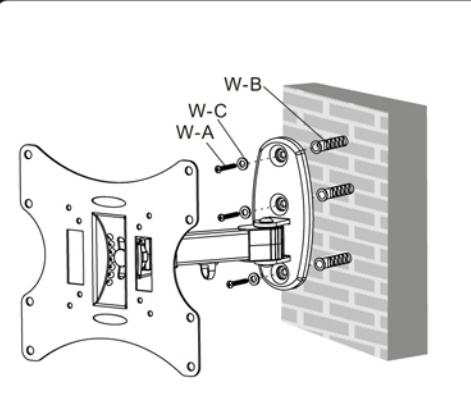

fig. 1.3
- Pre-drill these holes with a 8mm masonry bit to at least 60mm in depth. Insert a Concrete Anchor (W-B) into each of these holes. Attach the Wall Plate to the wall using 3 wood screws (W-A) and 3 Washers (W-C), as in fig.1.3.